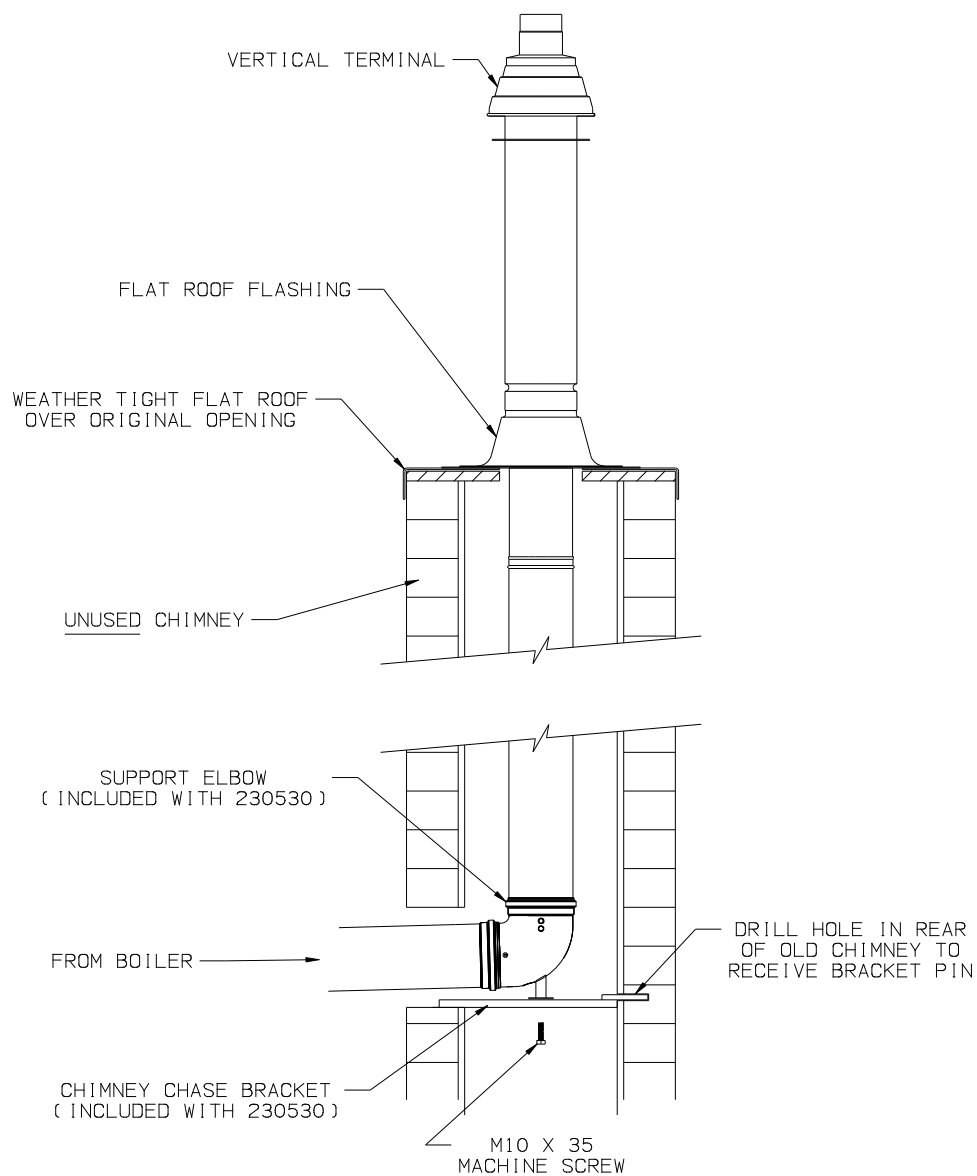

Figure 7.36: Chimney Chase Installation
- 7) Chimney Chase Installation - A vertical 80/125mm vent system can be installed in an unused masonry chimney. This installation is similar to other vertical installations with the following exceptions (Also see Figure 7.36):